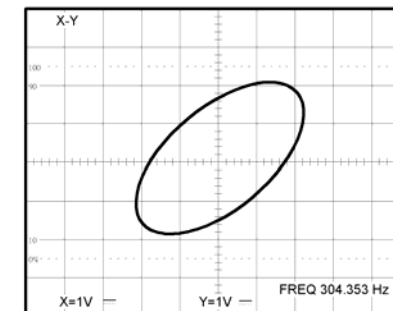

Figure 5-7 Typical single X-Y display.
To compare the frequency and phase between two signals by using the X-Y mode. The X-Y waveform displays different amplitude, frequency, and phase. The figure 5-7 shows a typical waveform made up of two signals that are of the same frequency and amplitude, but approximate 45° out of phase.
3. Set the X-Y button to single X-Y operation (shown as Fig. 5-7 below).